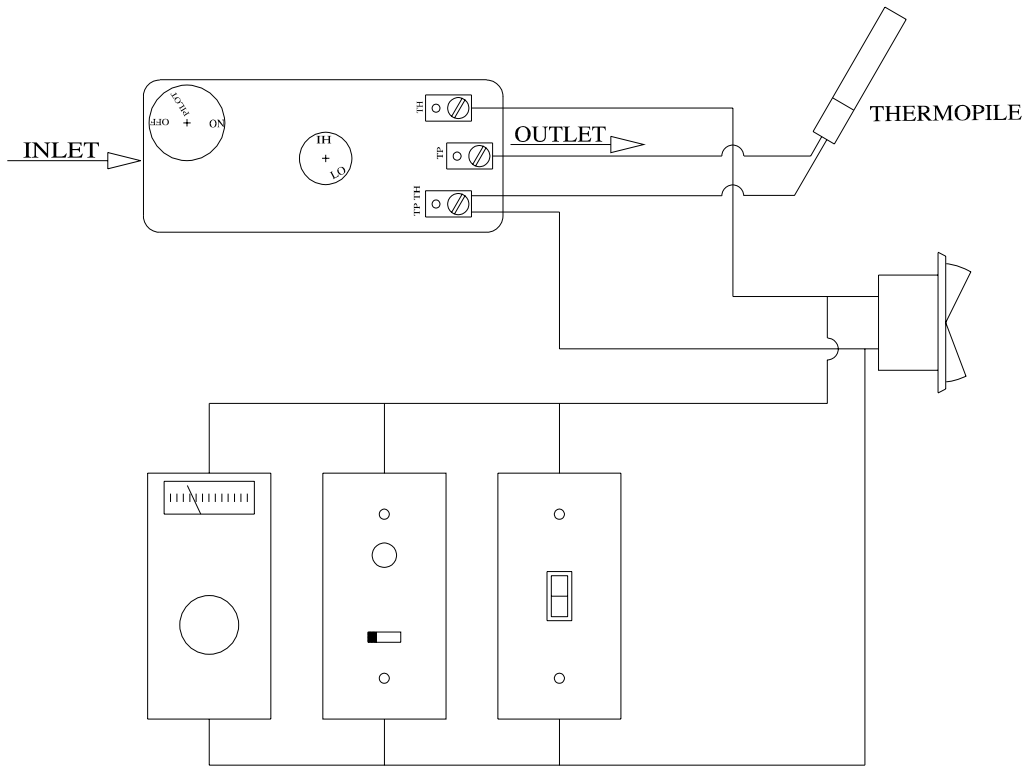
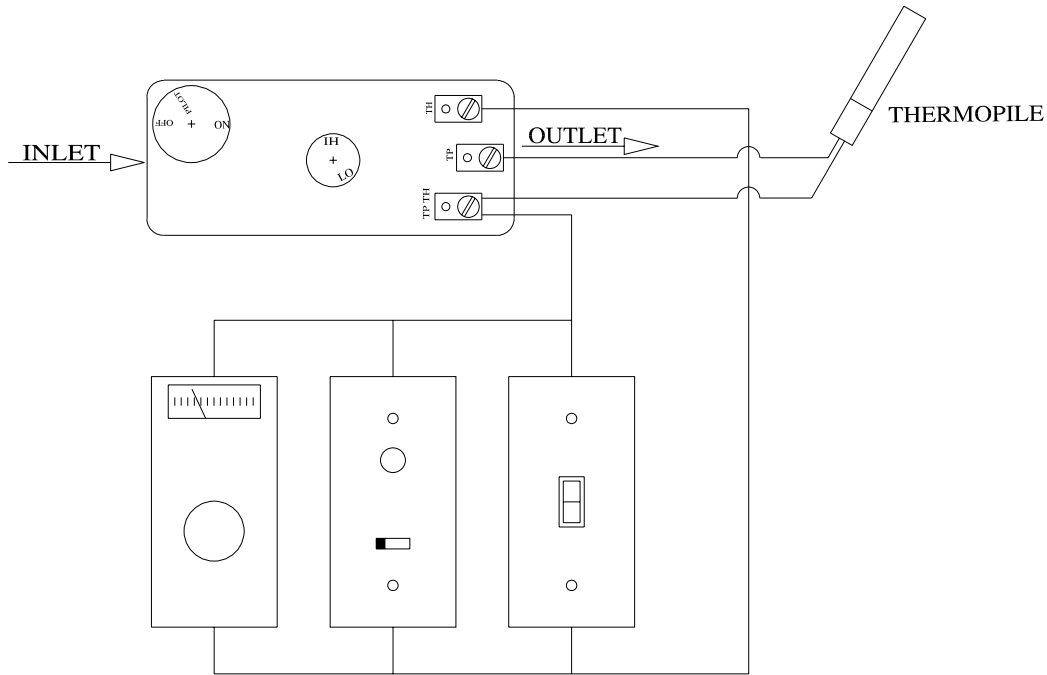

Figure 3
Figure 4
1. Mount the thermostat or wall switch in the desired location and run "two conductor thermostat wire" to the burner control switch (Figure 3). To bypass the burner control switch, run the wires directly to the gas valve (Figure 4).